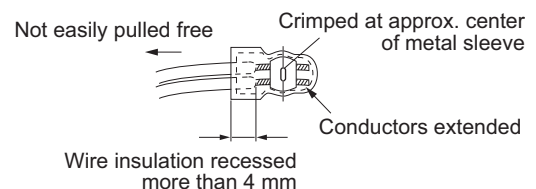

Fig.1-1-7
- e) Check the four points noted in Fig.1-1-7.